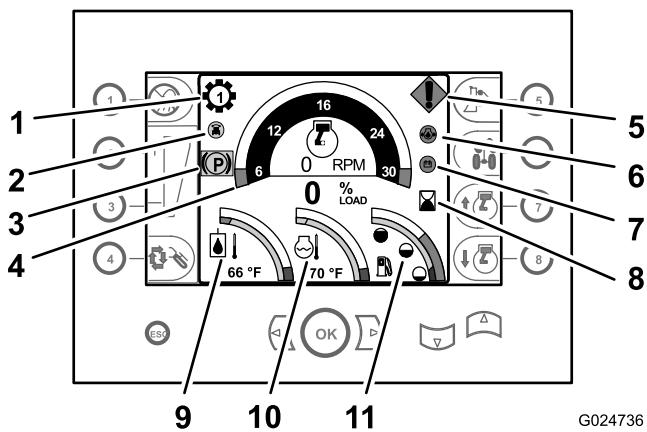
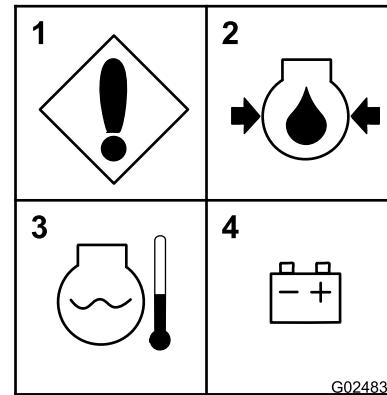

Figure 30
Figure 31
- **Gear indicator**—This indicator shows which gear is selected for the transmission (gears 1 through 4) and is displayed above and to the left of tachometer (Figure 30).
- **Auto-tilt indicator** 0(optional kit)—This on/off indicator displays whether the auto-tilt function is active. The auto-tilt indicator is located just below and to the left of the gear indicator (Figure 30).
- **Tachometer**—The tachometer indicates the engine speed in revolutions per minute (rpm). The tachometer is displayed in the upper center of the command-center display (Figure 30).
- **Hour meter**—The hour meter indicates the number of hours that the engine has run. It is displayed in the center right area of the command display, to the right of the tachometer (Figure 30).
- **Hydraulic-fluid temperature indicator**—This indicator shows the operating temperature of the hydraulic fluid and is displayed in the lower left area of the command display (Figure 30).
- **Coolant temperature indicator**—This indicator shows the temperature of the coolant in the engine-cooling system. It is displayed in the lower center area of the instrument cluster (Figure 30).
- **Fuel-level indicator**—This indicator shows the remaining level of fuel that is in the tank, and it is displayed in the lower right area of the command display (Figure 30).
- **Machine or engine error**—This message is displayed if the machine or engine experiences a fault. The cause of the fault is given in the Instrument Panel Diagnostics (Figure 30 and Figure 31).
- **Low engine-oil pressure**—This warning message is displayed if there is no or low oil pressure in the engine (Figure 30 and Figure 31).
- **Engine overheated**—This message is displayed if the engine is overheated (Figure 30 and Figure 31).
- **Check alternator or battery**—This message is displayed if the alternator is not charging the battery (Figure 30 and Figure 31).